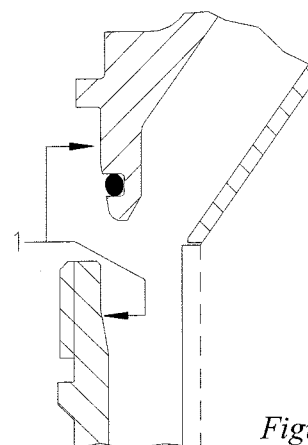

Figure 6.6
9) Carefully clean the conical coupling surfaces of bowl body and bowl hood (fig 6.6); then smear on them a thin film of antiscuff grease (alimentary type).